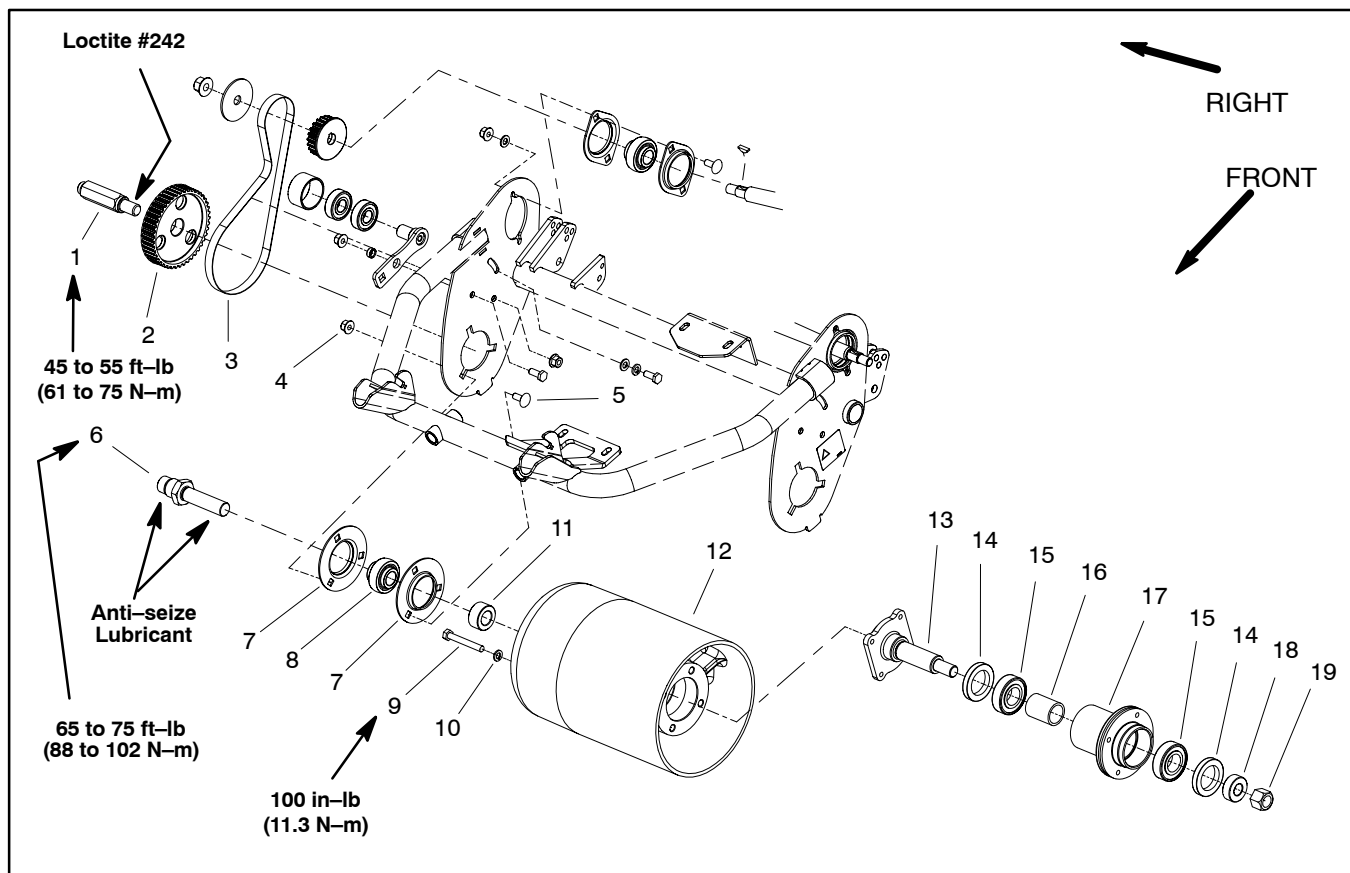

Figure 27
**NOTE:** Components shown in the Figure 27 are from the right side of the machine.
### Traction Drum Removal (Fig. 27)
### Traction Drum Disassembly (Fig. 27)
### Traction Drum Assembly (Fig. 27)
### Traction Drum Installation (Fig. 27)